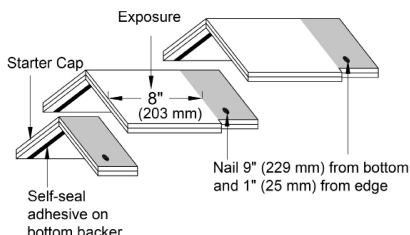

Figure 3
6. Begin laying full Ridge Cap Shingle pieces 12" x 12" (305 x 305 mm)... as shown (see Figure 3). Apply with an 8" (203 mm) exposure beginning at the bottom of the hip or from the end of the ridge, opposite the direction of the prevailing wind. The inner edge of the 4" (102 mm) wide laminated piece provides alignment for the next unit.
7. Apply Ridge Cap using 2 nails per piece 9" (229 mm) back from the exposed end and 1" (25 mm) up from the edge... (see Figure 3 for location of nails). Use only zinc-coated steel or aluminum, 10-12 gauge, barbed, deformed, or smooth shank roofing nails with heads $\frac{3}{8}$ " (10 mm) to $\frac{7}{16}$ " (12 mm) in diameter. Nails should be long enough to penetrate at least $\frac{3}{4}$ " (19 mm) into wood decks or just through plywood or OSB decks. Nails must be driven flush with the surface of the shingle. Overdriving will damage the shingle. Raised nails will interfere with the wind resistance of the shingles.